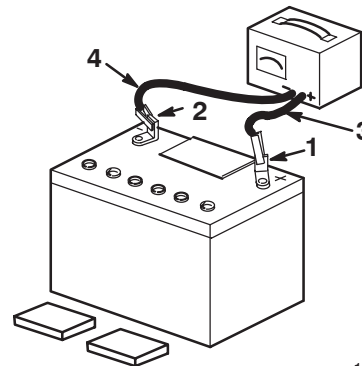

Figure 3
5. Leave the covers off and connect a 3 to 4 amp battery charger to the battery posts (Fig. 3). Charge the battery at a rate of 4 amperes or less for 4 hours (12 volts).